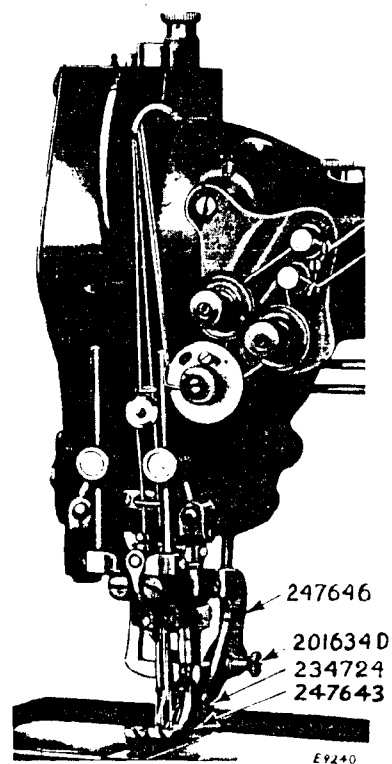
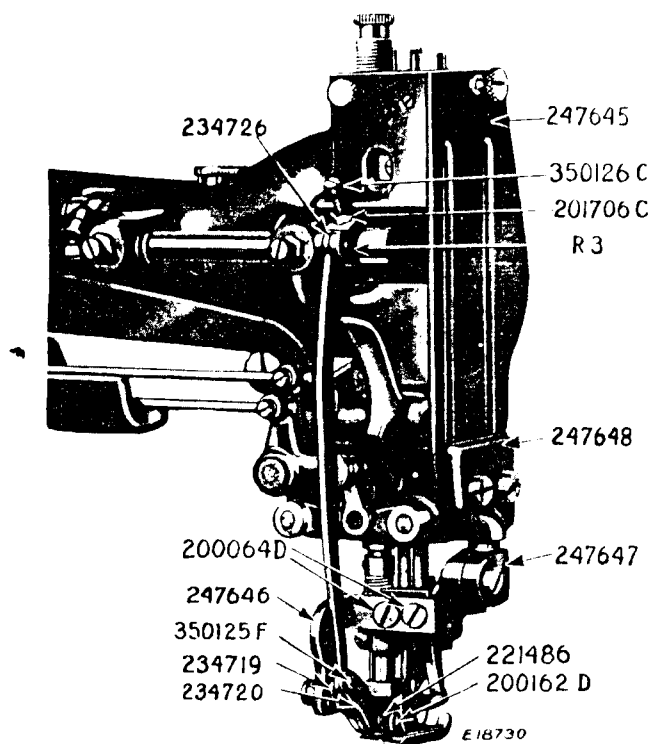

Fig. 22
Fig. 23
1. Remove the regular presser foot from the machine and fasten presser foot 247643 in position on the machine as shown in Fig. 22. Substitute face plate 247645 for the regular face plate and fasten bracket support 247648 to the machine by means of the two screws, as shown in Fig. 23.
3. Place picot edge cutting blade arm bracket 247647, Fig. 23, in position on bracket support 247648, Fig. 23.
5. Place the attachment (with thumb nut 201634D, Fig. 22, at the back end of slot) in position by inserting the knives in between the presser foot shoes, and fasten the attachment on the arm bracket 247647, Fig. 23, with the two screws 200064D, Fig. 23.
6. Loosen the pinch screw in the arm bracket and raise the attachment on the bracket support until the centre of the knife fulcrum stud 234724, Fig. 22, is $\frac{1}{16}$ inch above the top of the throat plate. Place a scale or straight edge across attachment
arm 247646, Fig. 23, from front to back, and line up parallel with the presser foot, the cutting edges of the knives to be in line with the centre of the piercer, then tighten the pinch screw.
7. Remove the set screw in the rock shaft collar (R3, Fig. 23).
8. Place the operating lever 234726, Fig. 23, in position on the rock shaft collar (R3), using screw 350126c, Fig. 23, and check nut 201706c, Fig. 23, in place of set screw to hold the lever and rock shaft collar in position.
10. Fasten the operating lever with the screw 350126c and nut 201706c, using care to have the point of upper knife blade 234720, Fig. 23, just above the throat plate.
11. Loosen the thumb nut 201634D, Fig. 22, and pull it forward until the point of the lower knife blade 234719, Fig. 23, rests on the throat plate, then tighten the thumb nut. The point of the knife should be just back of the needle hole.
If the knives cut into the first bar, which may occur when using a long stitch, there are two slims 234735 (Fig. 24) which have been provided to insert between 247646 and 247647 (Fig. 23) to position the knives further back so that they will cut the second bar only.
13. When it is desired to do straight hemstitching with the attachment in place, loosen thumb nut 201634D, Fig. 22 and push it to the back end of the slot, then tighten it. This will raise the lower knife so as to permit the fabric to pass under it.